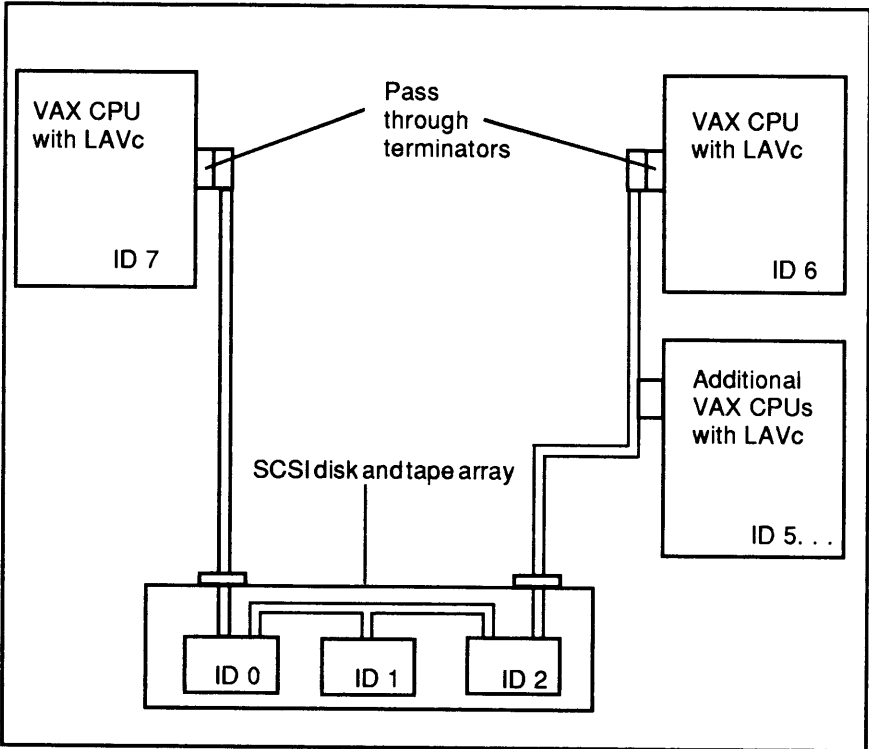

Figure 3-1. Typical Multihosting Hardware Configuration
The QTD-30 provides true multihosting capabilities. Multihosting means that multiple DEC systems running Local Area Cluster (LAVc) software can share a common array of disk and tape devices (Figure 3-1). The QTD-30's multihost solution has every feature found in DSSI with the additional capability to support tape and optical devices (including jukeboxes).
4. Cable the multihost system as shown in Figure 3-1. Limit total cable length (including internal subsystem loop cables) to 20 feet for single-ended devices or 80 feet for differential devices.
5. As shown in Figure 3-1, use pass-through external terminators at each end of the SCSI bus.